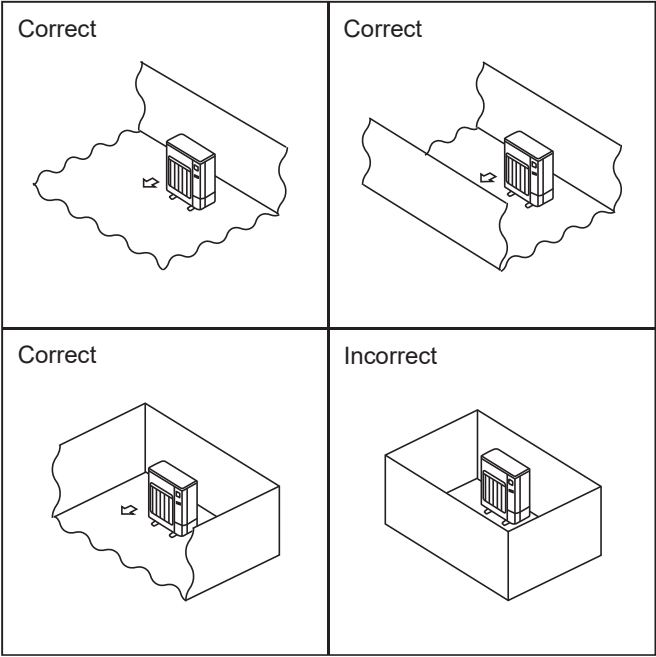

Fig. 2-2
- Ⓒ Install outdoor units in a place where at least one of the four sides is open, and in a sufficiently large space without depressions. (Fig. 2-2)